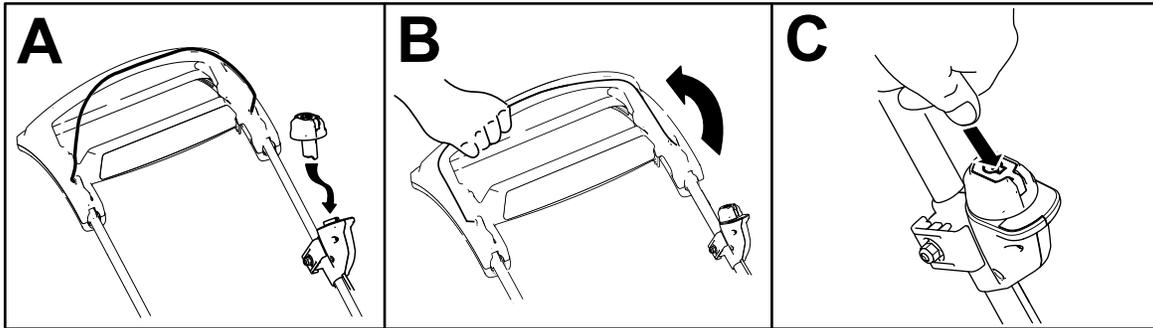

Figure 11
2. Insert the electric-start button into the electric-start switch (A of Figure 11).
3. Squeeze the blade-control bar and hold it to the handle (B of Figure 11).
4. Press the electric-start button and keep it pressed until the motor starts (C of Figure 11).